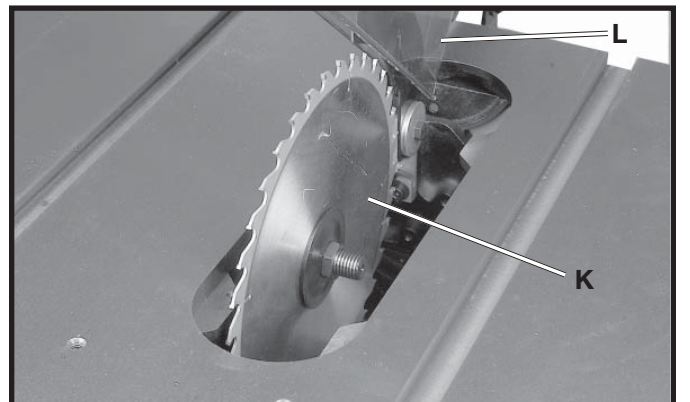

Fig. 50
9. With the blade guard (L) Fig. 50, in the raised position, attach the saw blade (K) on the arbor with the two arbor wrenches provided (No. 7 and 8, Fig. 1). For more instructions on changing blades, see "CHANGING THE SAW BLADE" section in this manual.